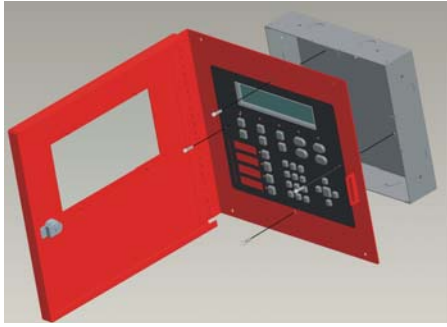

Figure 4: Attaching Annunciator/Door Assembly to Backbox
4. Attach the annunciator/door assembly to backbox as shown in Figure 4, using the supplied